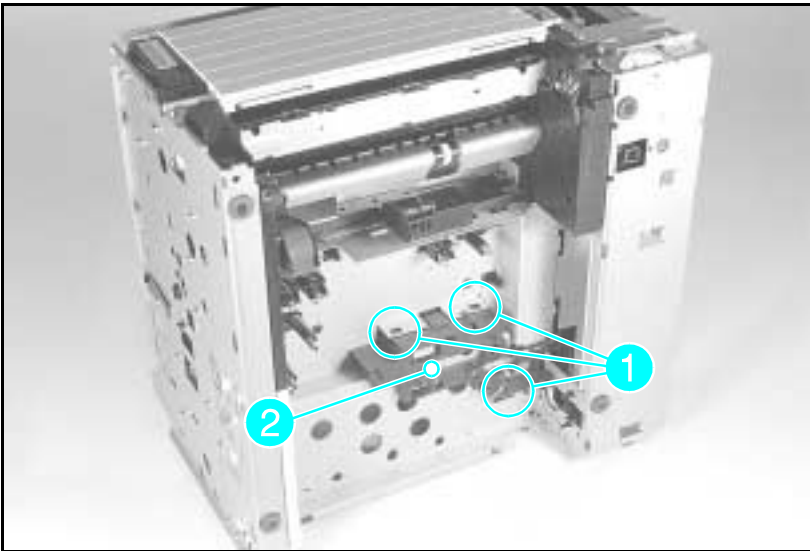

Figure 6-59 Interconnect PCA latches and AC Connector Mounting Pins
- 5** Release the bottom or rear-most latch (see Figure 6-59), callout 1) holding the arm of the Interconnect PCA housing to the sheet metal.